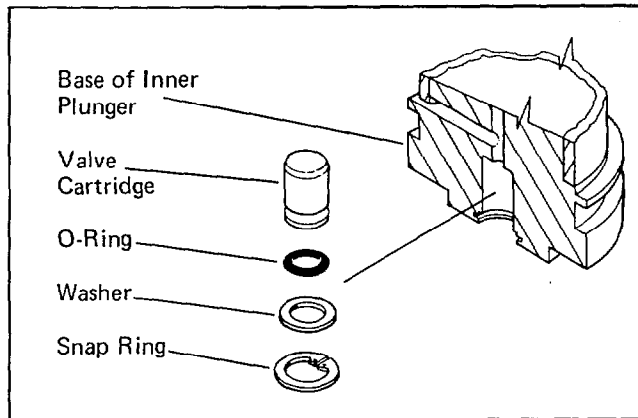

Figure 5-9 Inner Plunger Valve & Port
1. Inspect and clean the valve ports in the base of the inner plunger. See figure 5-9.
2. Install a new valve cartridge in the base of the inner plunger. Place a new O-ring and reinstall the washer and snap ring in the port. See figure 5-9.